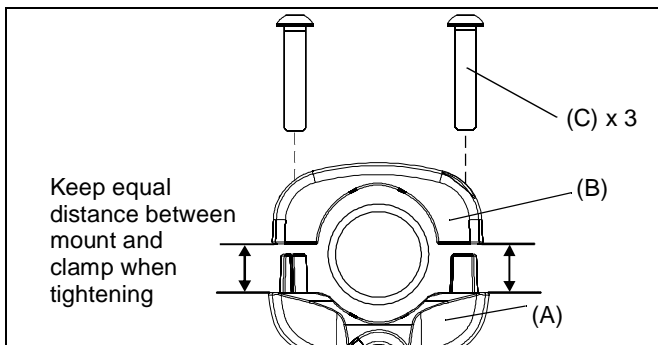

Figure 2
NOTE: Equally tighten screws (C) against clamp (B) and mount (A). (See Figure 2)
3. Position mount at desired height and orientation. Tighten screws (C) securely.